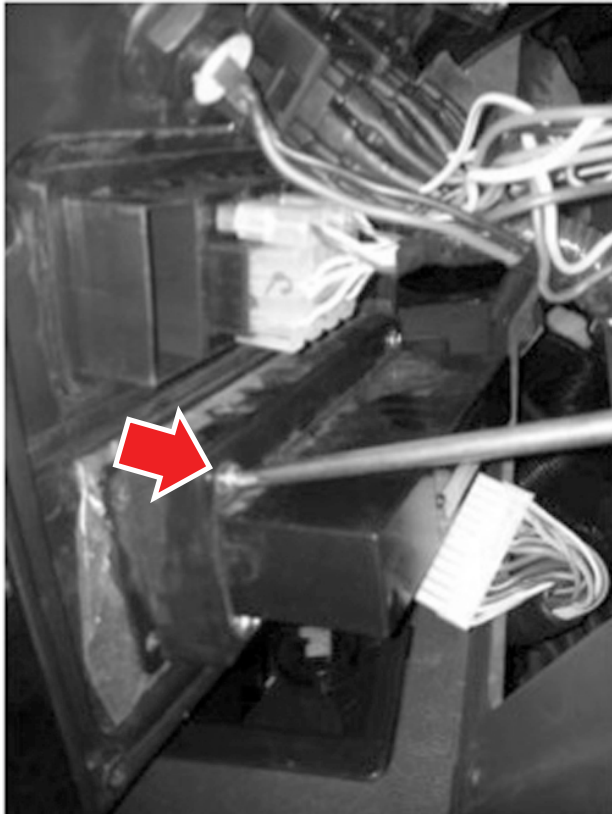

Figure 24-1
1. Remove the four screws affixing the clamp bracket to the rear of the HVAC controller (see Figure 24-1).